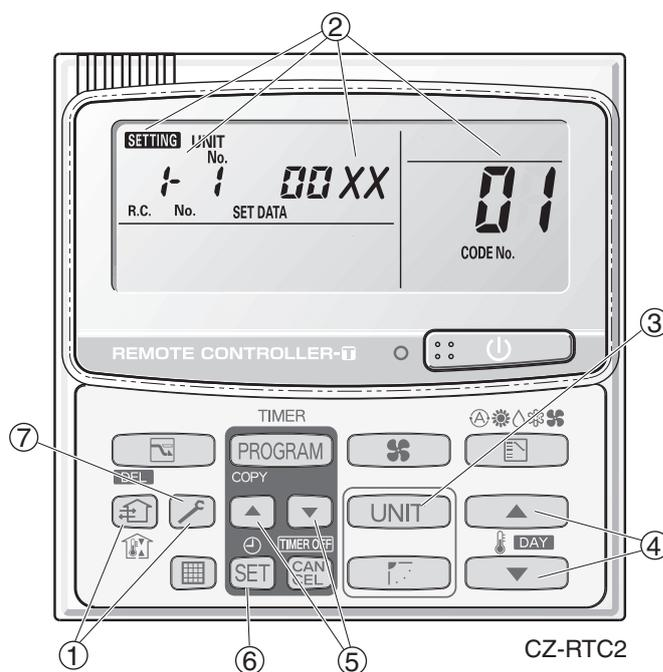

Fig. 1
- "SETTING," unit No. "1 1" (or "ALL" in the case of group control), item code "01," and settings data "00XX" are displayed blinking on the remote controller LCD display (Fig. 1). At this time, the indoor unit fan (or all indoor unit fans in the case of group control) begins operating.